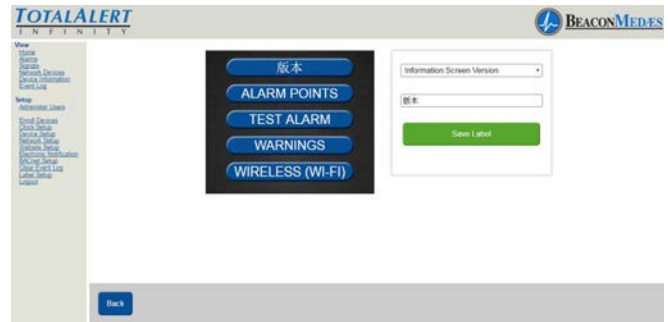

Figure 249
19. To setup Information Screen from the pull down menu, Choose "Information Screen Version". Then input the non-latin language character for "Version" in the writable tab. (See Figure 249)